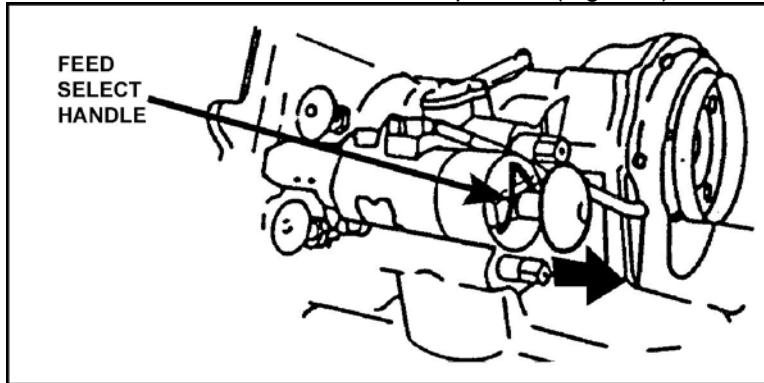

Figure 3. Feed select solenoid knob.
- a. Pull out the feed select solenoid knob to the HE position (Figure 3).